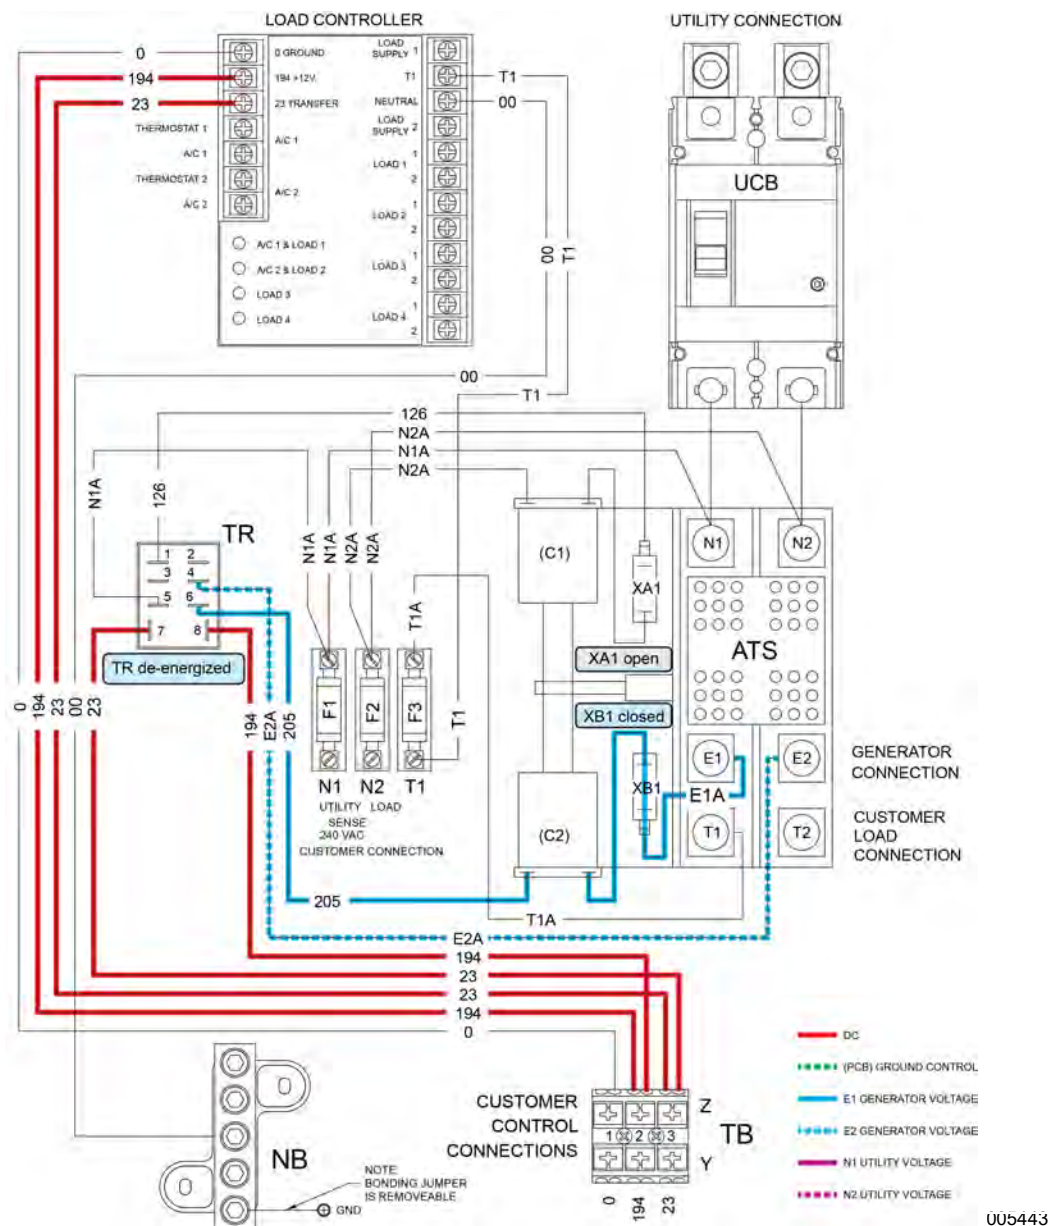

Figure 1-43. Utility Source Voltage Failure
If Utility source voltage drops below 65% of nominal voltage for five (5) seconds, the controller will initiate engine start. After the generator starts, a five (5) second engine warm-up timer is initiated. During this warm-up the generator is running at rated frequency and voltage. **Figure 1-43** is a schematic representation of the transfer switch with the Generator running with voltage available to the transfer switch.